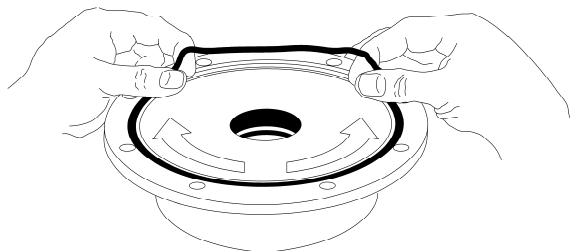

Figure 6 - Head O-ring Installation
7. Install a new head O-ring (72) in the groove on the inside face of the head (20). Lay the O-ring flat and start in on one side of the groove, stretching ahead with the fingers, as shown in Figure 6.